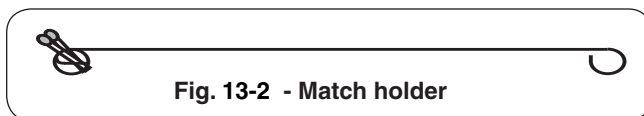
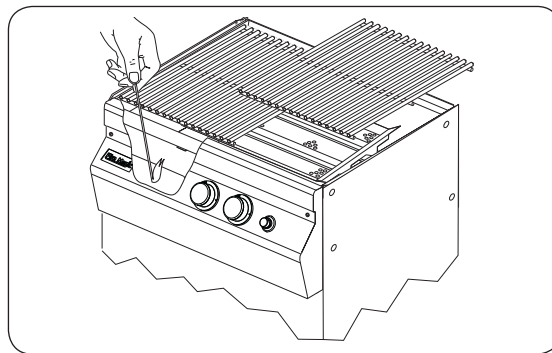

Fig. 13-2 - Match holder
Fig. 13-3 - Manual lighting
2. Insert either a burning long-barrel butane lighter, a burning long-stem match, or a burning match held by a wire extension holder (Fig. 13-2) through the cooking grids to the burner (Fig. 13-3). For backburners, hold the flame against the perforated material of the backburner. For sideburners, hold the flame against the burner.
REMEMBER: FOR SAFE MANUAL LIGHTING, PLACE A BURNING MATCH OR BUTANE LIGHTER BESIDE THE BURNER - **THEN TURN ON THE GAS** (see Fig. 13-3).